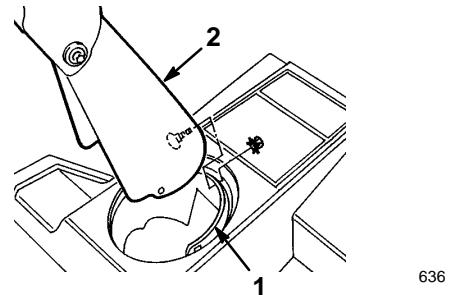

Figure 3
1. Set the discharge chute over the chute ring (Fig. 3).
2. Align the hole in the back of the chute with the center hole in the ring (Fig. 3)
3. Install a carriage bolt and a locknut through the center holes, with the locknut on the outside (Fig. 3)